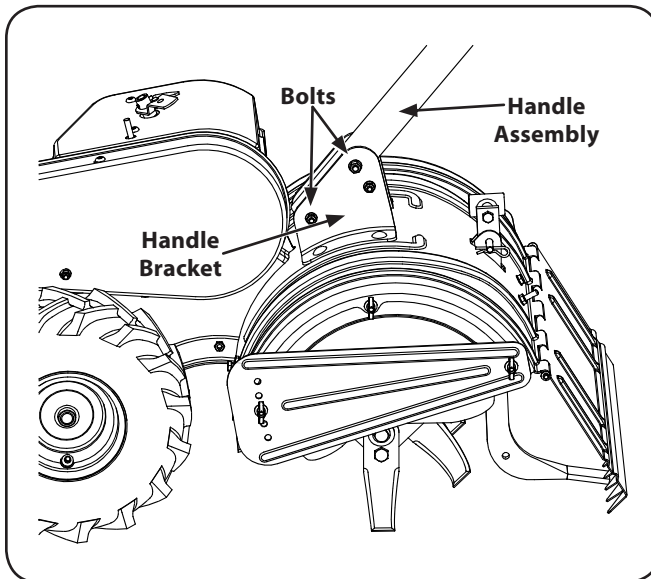

**Figure 3-1**
2. Unthread the T-knob from the top of the depth stake and remove the flat washer and hex bolt. Remove the hairpin clip from the clevis pin. See Fig. 3-1.
5. Insert a hex bolt into the top hole of the depth stake assembly. Place the flat washer on the hex bolt and thread the T-knob onto the hex bolt. Tighten securely. See Fig. 3-1.